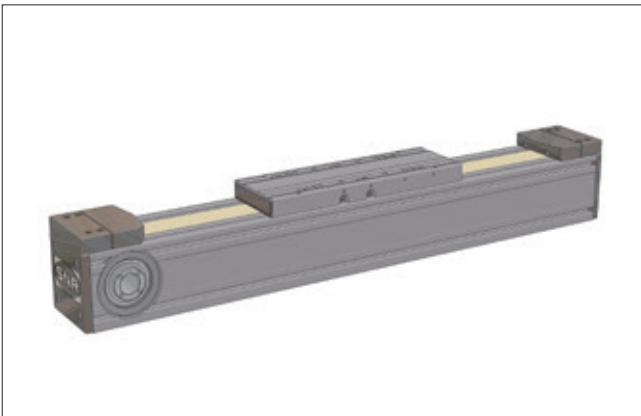

Figure 5.1 — AXC with toothed belt drive
- 3 drive versions – toothed belt drive, screw drive or toothed belt /  $\Omega$  - drive (Figures 5.1 up to 5.3)